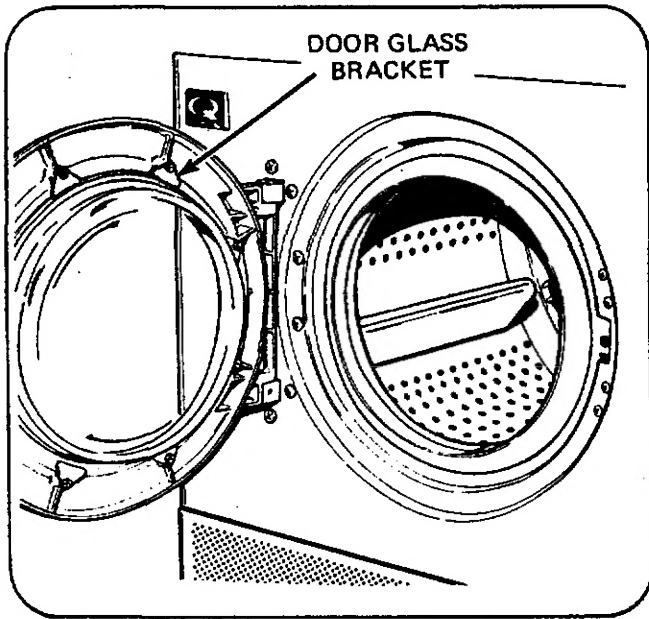

Figure 11
- a. Check the door glass bracket screws periodically and tighten if necessary, *Figure 11*.